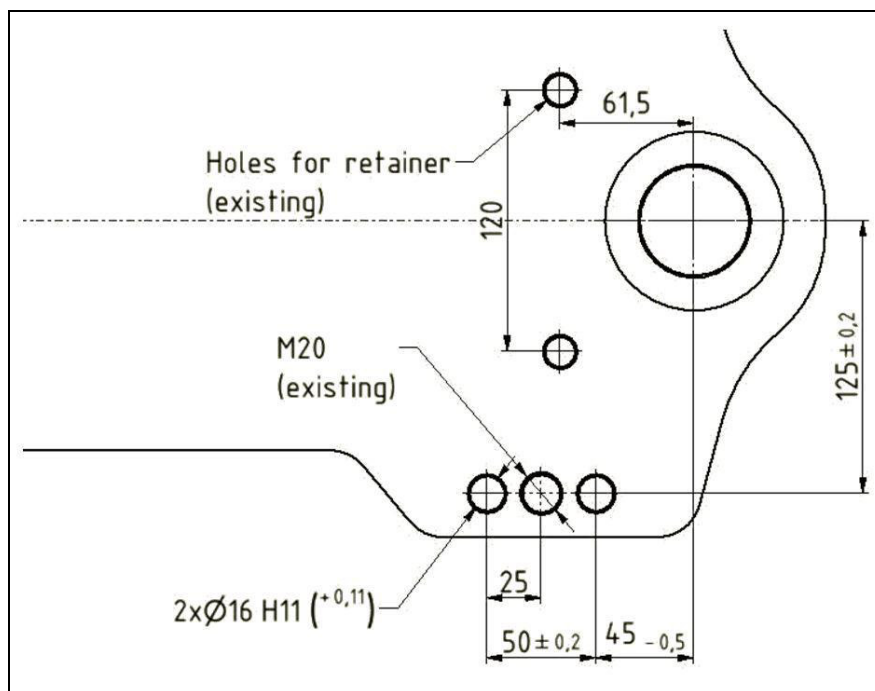

Figure 5 – Installation drawing
- Drill two  $\text{Ø } 16 \text{ H11}$  holes into the ball-type drawbar according to the drawing below (see Figure 5) on the side, where the forced steering device should be fixed. In some ball-type drawbars you can find a countersink at the position where the  $\text{Ø } 16$  hole should be placed.